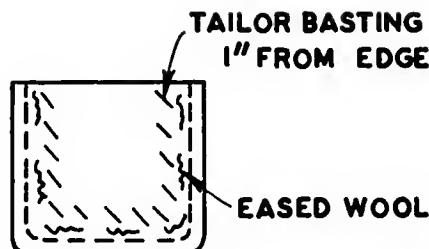

Fig. 147A. Basting the wool.
- D. Tailor-baste about 1 in. from the raw edge of the lining and the pocket. Ease the wool between the tailor basting and the edge. Baste again on the seamline (Fig. 147A).